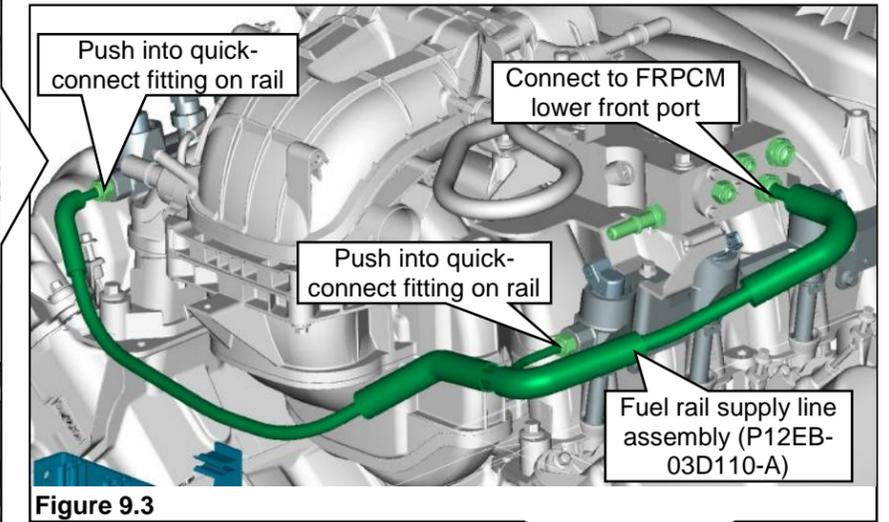

Figure 9.3
8. Orient and install fuel rail supply line assembly onto rearward ends of fuel rails. Push to connect fittings. Plug the open end of the fuel rail supply fuel line into the FRPCM lower front 3/8" port. **Figure 9.3.**